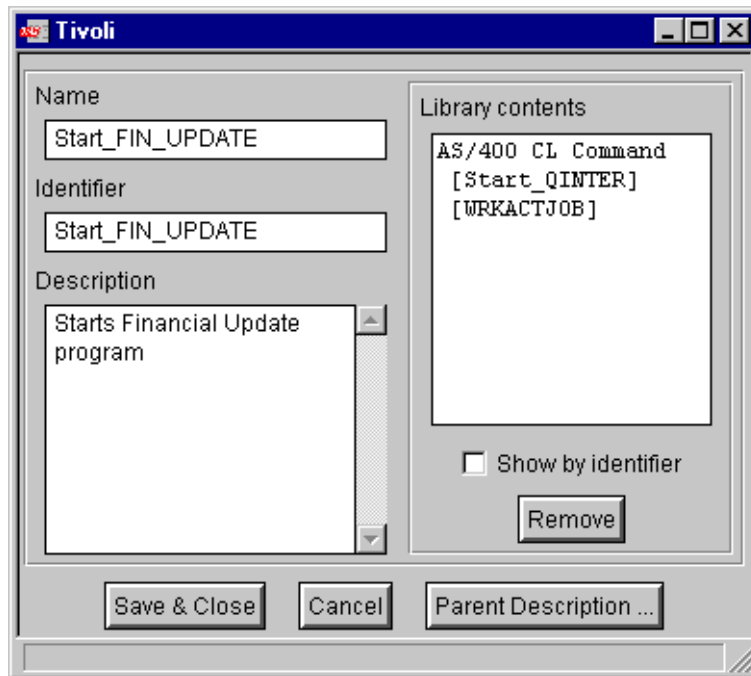

Figure 292. Saving a task in the AS/400 Task Library
4. On the Save screen, we must enter a command name and an identifier that will be used when setting up our automated TEC response. We will name both the task and Identifier Start_FIN_UPDATE as shown in Figure 292 on page 459. You may also enter a description if necessary.